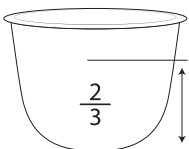

Figure 10
1. Open lid, remove cooking pot from pressure cooker and add food and liquids. **Note:** The total volume of food and liquid must not exceed 2/3 of the capacity of the cooking pot (Figure 10). For foods such as dried vegetables and beans, or rice and grains, the total volume must not exceed 1/2 the capacity (Figure 11). Overfilling may clog the pressure limit valve, which can cause excess pressure to develop. Always use at least 1/2 cup liquid when pressure cooking.